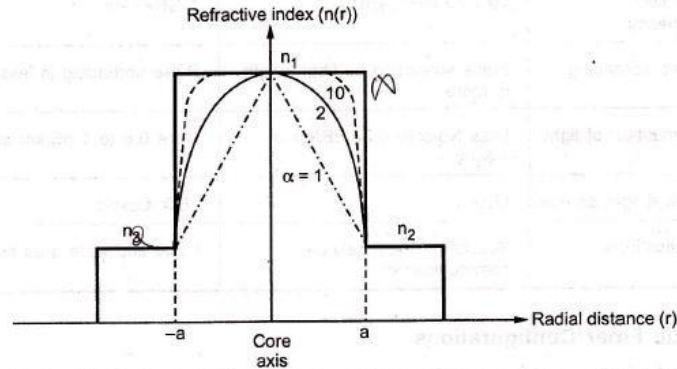

Fig. 1.6.15 Possible fiber refractive index profiles for different values of  $\alpha$ .
- Profile parameter  $\alpha$  determines the characteristic refractive index profile of fiber core. The range of refractive index as variation of  $\alpha$  is shown in Fig. 1.6.15.